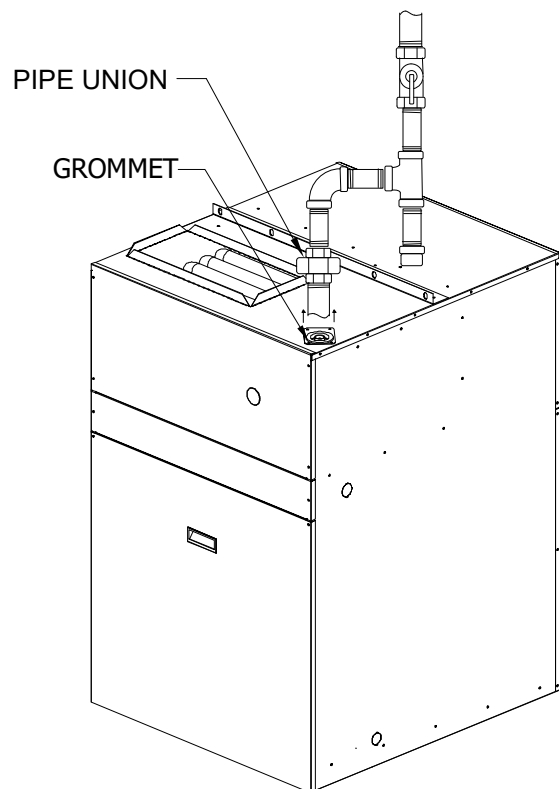

FIGURE 44 – Disconnection of Gas Union & Piping
- 4) Disconnect gas union and necessary piping to allow heat section module to slide out of cabinet as seen in FIGURE 44 – Disconnection of Gas Union & Piping.